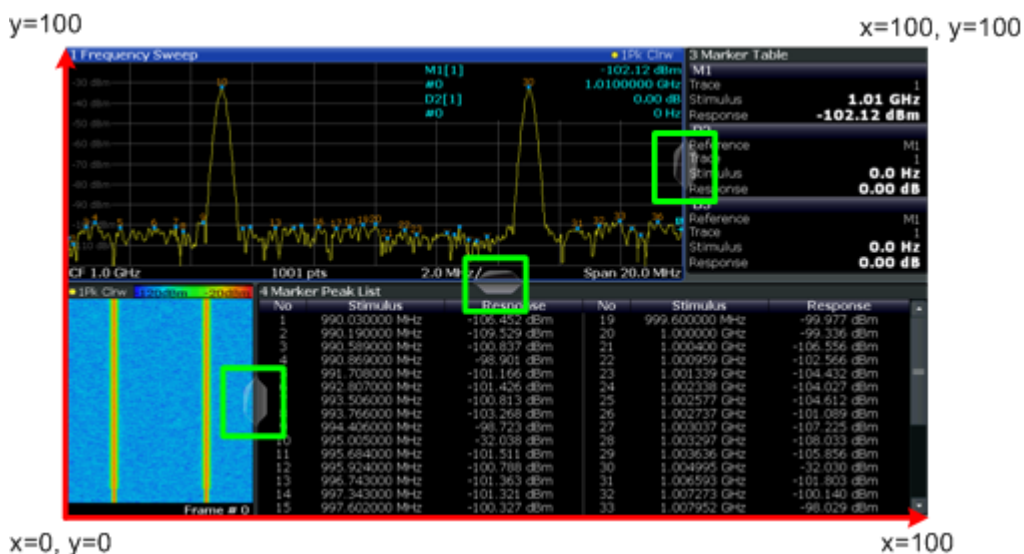

Fig. 6-1: SmartGrid coordinates for remote control of the splitters
- <Position> New vertical or horizontal position of the splitter as a fraction of the screen area (without channel and status bar and softkey menu). The point of origin (x = 0, y = 0) is in the lower left corner of the screen. The end point (x = 100, y = 100) is in the upper right corner of the screen. (See figure 6-1.)